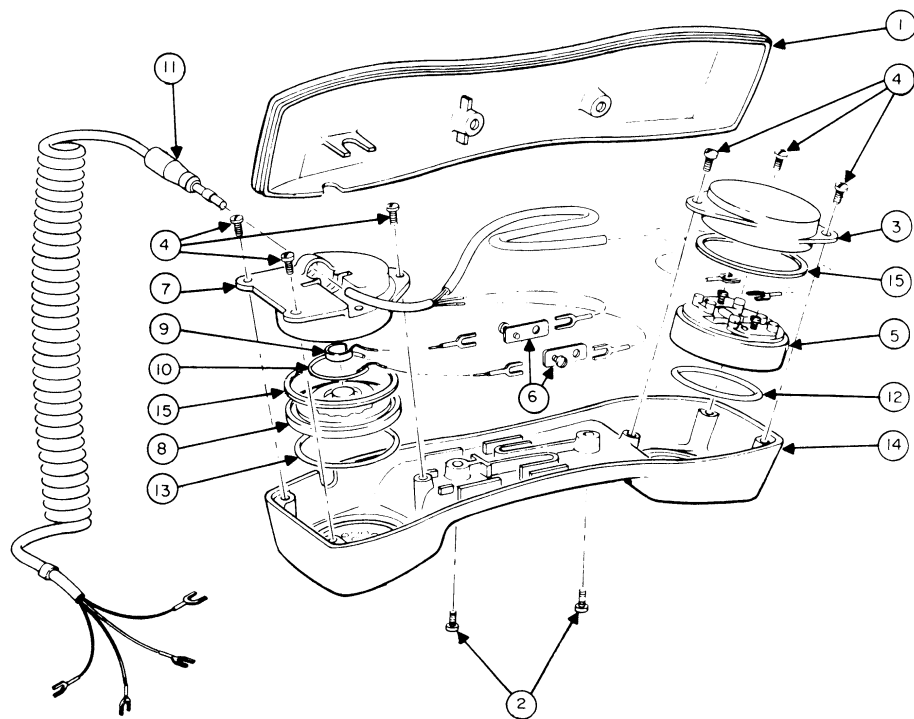

Figure 15. Chestphone Handset Assembly.
6.06 To replace the handset cord, refer to Figure 15 and proceed as follows: